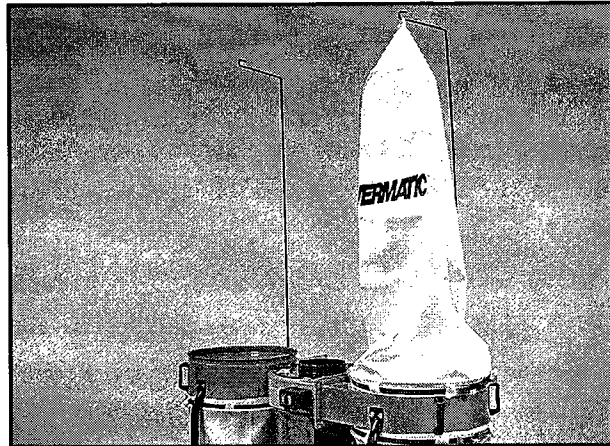

FIGURE 14
12. In the same fashion, install the upper bag with a retainer strap over the top lip of the housing. (NOTE: the upper bag has the Powermatic name on it). See Figure 14. Place the top loop of the bag over the "hook" on the hanger as shown. Repeat for other bag.